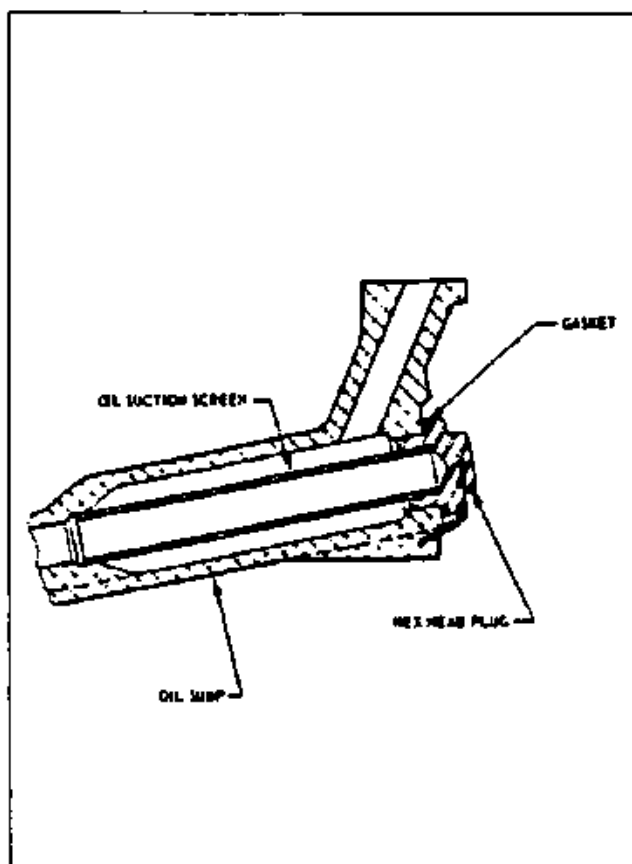

Figure 2-17. Oil Suction Screen
**2-72. OIL SCREEN (SUCTION).** The suction screen located in the bottom of the sump to the right of the air induction inlet should be cleaned at each oil change to remove any accumulation of sludge and to examine for metal filings or chips. If metal particles are found in the screen, the engine should be examined for internal damage. The suction screen is removed from the sump by cutting the safety wire and removing the hex head plug. Clean and inspect the screen and gasket and replace the gasket if over compressed or damaged. To eliminate damage to the oil screen, place it inside the recess in the hex head plug before inserting the assembly into the bottom of the sump. Care must be exercised to enable the screen to enter the oil suction tube inside the sump. (Refer to Figure 2-17.) When certain that the screen is properly seated, tighten the plug. If the plug seems tight, this will indicate that the screen is not properly seated, and must be disassembled and the above procedure repeated. After installation, safety the hex head plug with MS20995-C41 safety wire.